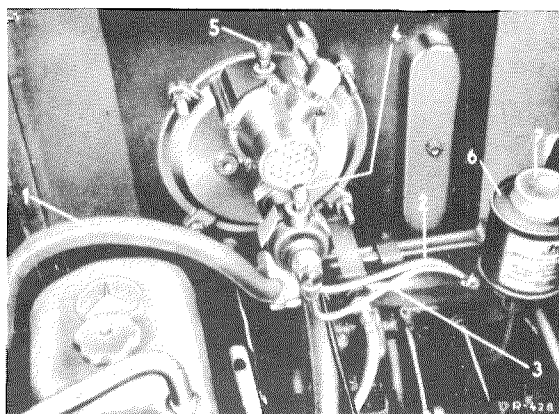

Fig. 42 — 1/4
- b) lower bleed screw (4) at the ATE power brake T 50;
- g) upper bleed screw (5) at the ATE power brake T 50;
- h) lower bleed screw (4) at the ATE power brake T 50;
3. To start the bleeding operation remove the rubber protective cap of the bleed screw and fit the bleeder hose over the bleed screw nipple (Fig. 42 — 1/5).
**Note:** Fig. 42 — 1/5 shows the bleeding operation at the right front wheel.